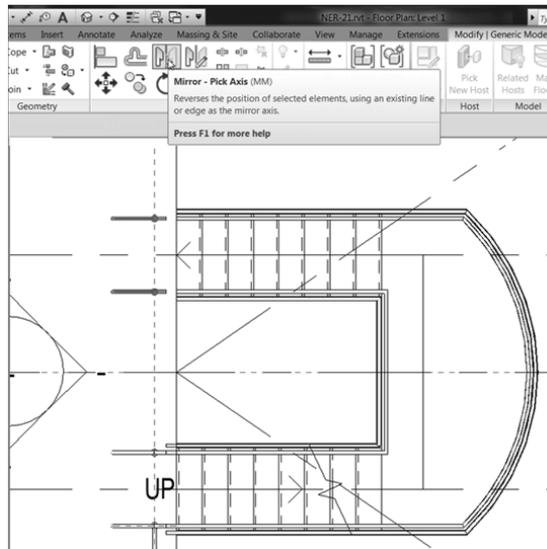

FIGURE 10.25: Mirroring and configuring the two railing extensions
1. Still on the second floor, select the two ADA – Pipe families, and click the Mirror – Pick Axis button, as shown in Figure 10.25.